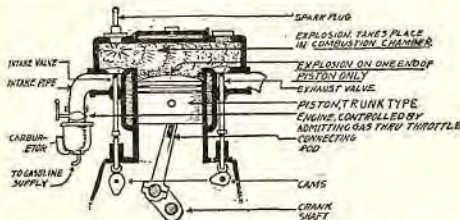
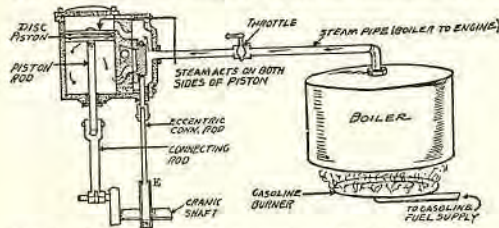

Fig. 1. The gasoline engine; an internal combustion type.
Fig. 2. Steam engine; an external combustion type.¹
¹ On a gasoline engine (Fig. 1) the cams open the poppet valves at the correct time. On a steam engine (Fig. 2), the eccentric (E) causes the valve to slide back and forth to open and close the valve-ports to admit and exhaust the steam. In Fig. 2, steam is being admitted to the top of the piston; below the piston, steam is being exhausted through the exhaust port. On the return stroke the valve will move so that steam will be admitted through the bottom port and exhaust from the top port.